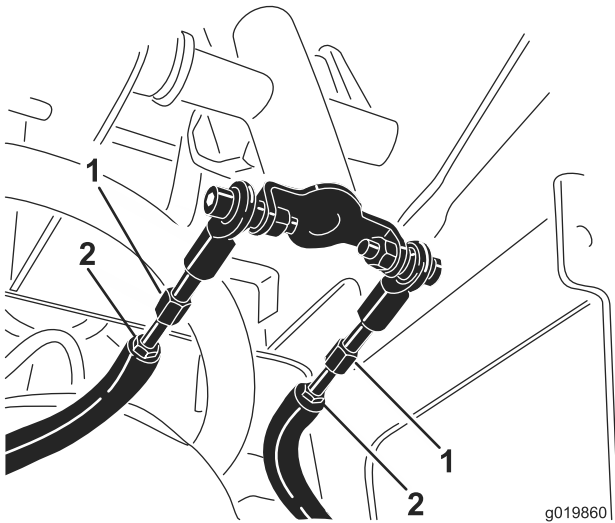

Figure 56
- D. Loosen the jam nuts on the traction rods, under the control panel (Figure 56).